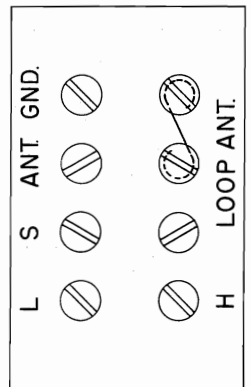

FIGURE 1
- Remove the signal generator lead from the 6SA7 grid and connect it to the radio antenna terminal through the .00025 mfd. capacitor. The link on the antenna terminal board must be set in the ANT position as shown in Figure 1.